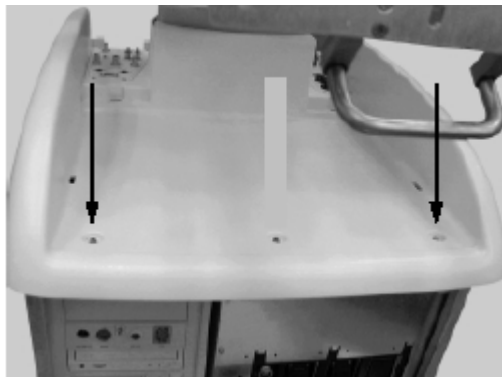

Figure 8-154 Top Cover Screws
- 8) Remove the *right* and *left* screws located at the front of the lower section top cover, as shown in Figure 8-154 on page 8-158.